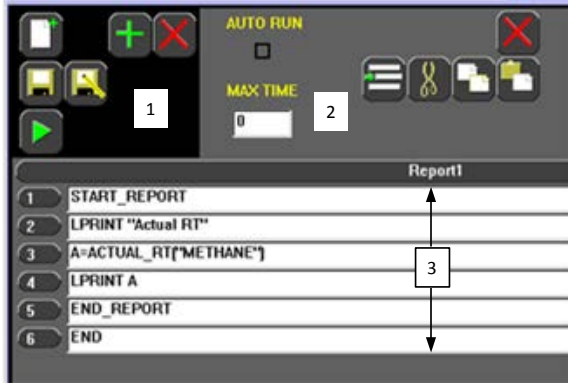

Fig. 9.1. Scripting Example
The PGC5000 Generation 2 analyzer has programmatic control and calculation in addition to the built-in capabilities. The Program Tab provides the means to customize analyzer operation to support most requirements (see Figure 9.1).
5. Enter lines of script (see Figure 9.1).
To add a line (see Figure 9.1):